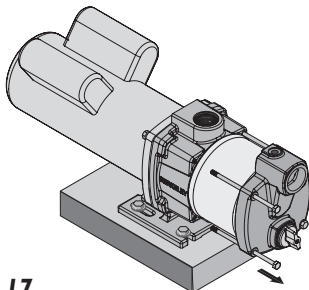

Figure 17
5. Remove four capscrews (Key No. 18) from the pump (see Figure 17).